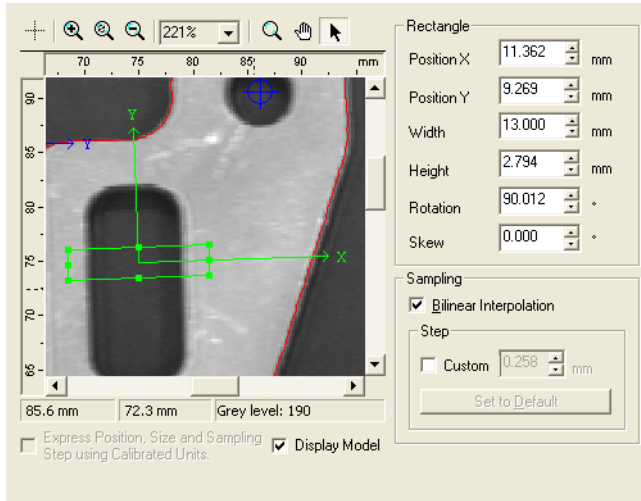

Figure 66 Adjusting the Size, Position and Orientation of the Caliper Rectangle
8. Place the Rectangle on the part as shown in Figure 66.